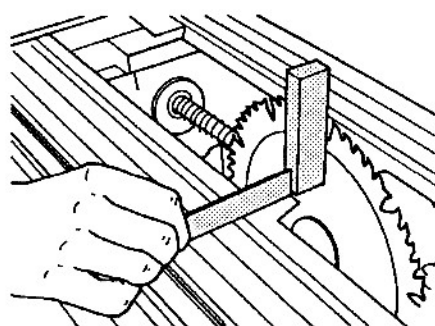

Fig. B-32
31. Place the precision square against the table and the saw blade, as seen in Fig. B-32. (Make sure the square rests in a gullet of the blade and not on a saw tooth.)